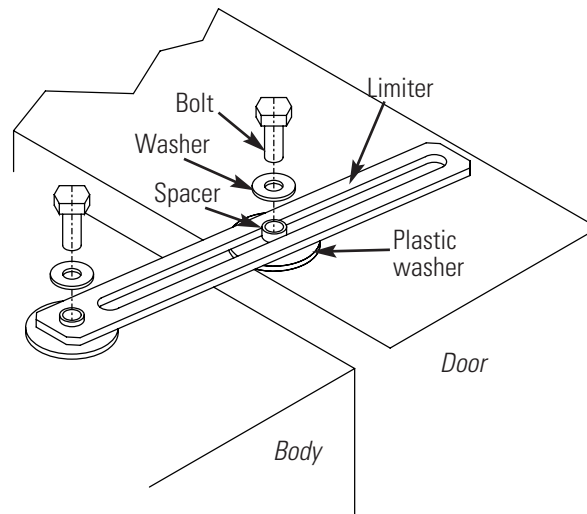

Figure 2-3. Door Opening Limiter
2. Position the limiter as shown in Figure 2-3 and secure in place with the two bolts and washers, using the box spanner (wrench).